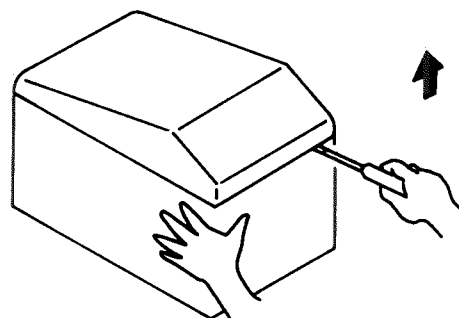

Fig.1
1. When removing the Saran Board Assembly, insert a flat screwdriver into the two notches at the under side of the Saran Board Assembly (Fig. 1), and raise the Saran Board Assembly slightly with the flat screwdriver.